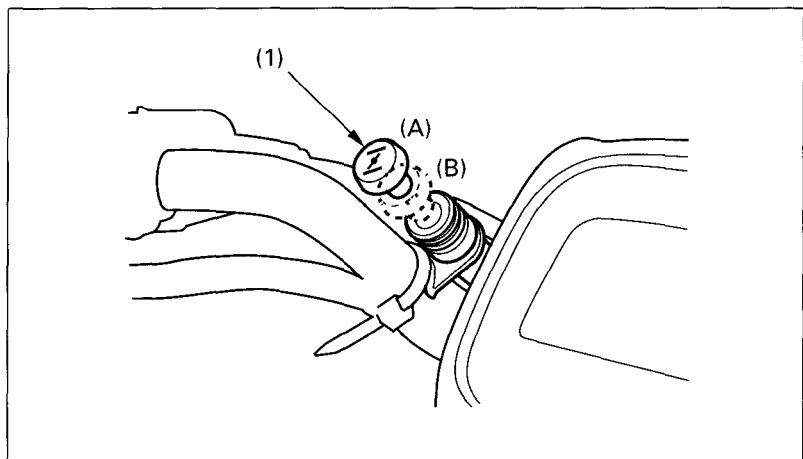

Fig. 2-7 (1) Choke knob
The choke knob (Fig. 2-7) is located on the left side of the handlebar. The choke has two positions: fully ON (A), and fully OFF (B).